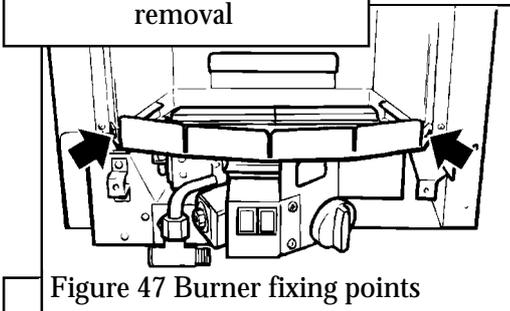

Figure 47 Burner fixing points
15.3.4 Detach the burner unit from the convection box by removing 2 screws (see figure 47). Carefully lift the burner unit forward making sure that the unit does not snag on any leads. Rest the burner on its front face to allow access to the pilot and gas tap.